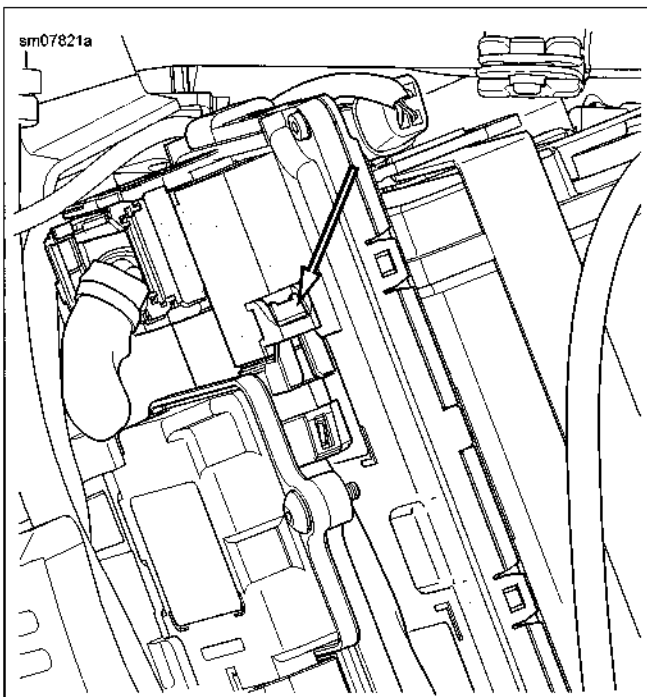

Figure 6-8. Battery Power Connector [259] Release
3. See Figure 6-8. Press release to disconnect battery power connector [259B].